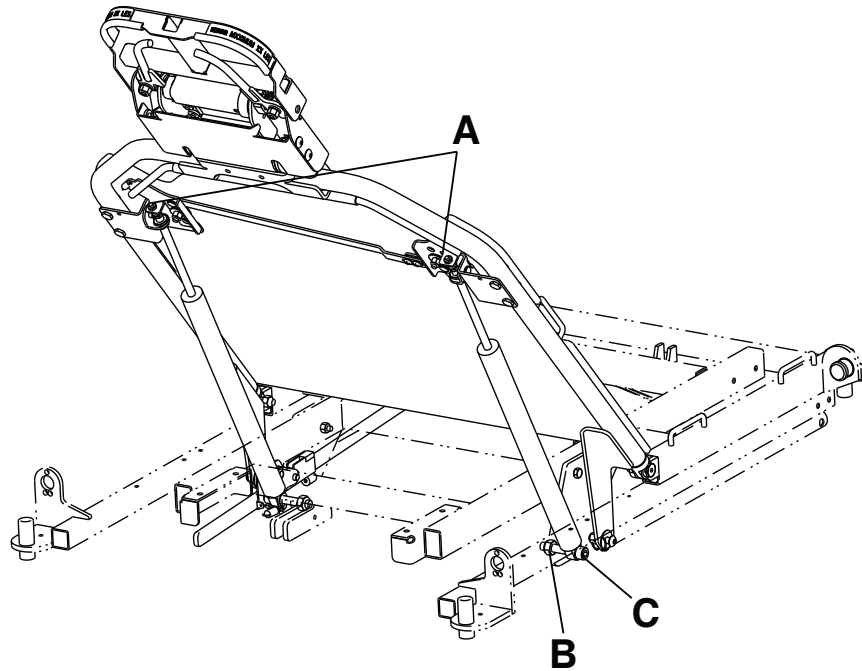

Figure 13 – 5051 pneumatic cylinder replacement
4. Using two 17 mm combination wrenches, remove the nuts (A) from the top of the pneumatic cylinder (Figure 13). Save the nuts.
5. Using a 5/16" hex wrench and an 11/16" combination wrench, remove the nut (B) and bolt (C) from the bottom of the cylinder. Save the nut and bolt.
8. Using two 17 mm combination wrenches, reinstall the nuts (A) (removed in step 4).
9. Using a 5/16" hex wrench and an 11/16" combination wrench, reinstall the nut (B) and bolt (C) on the bottom of the cylinder (removed in step 5).